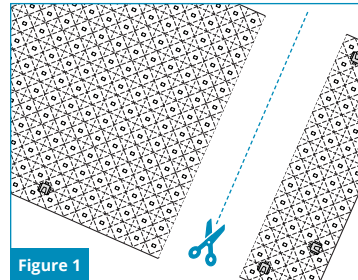

Figure 1
1. Make all necessary cuts to the Auragami Sheet and test it to ensure sheet functions properly (Figure 1).